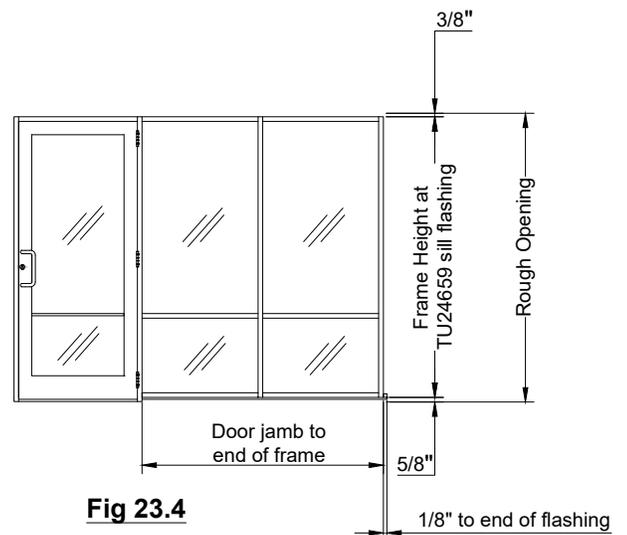

Fig 23.4
- Sill Flashing with Entrance. Door Jamb to End of Frame + 1/8" (**SEE Fig. 23.4**)
- Captured Verticals..... Frame Height. **See Fig. 23.4**
- Closure Pockets at Verticals..... **See Fig. 23.4**